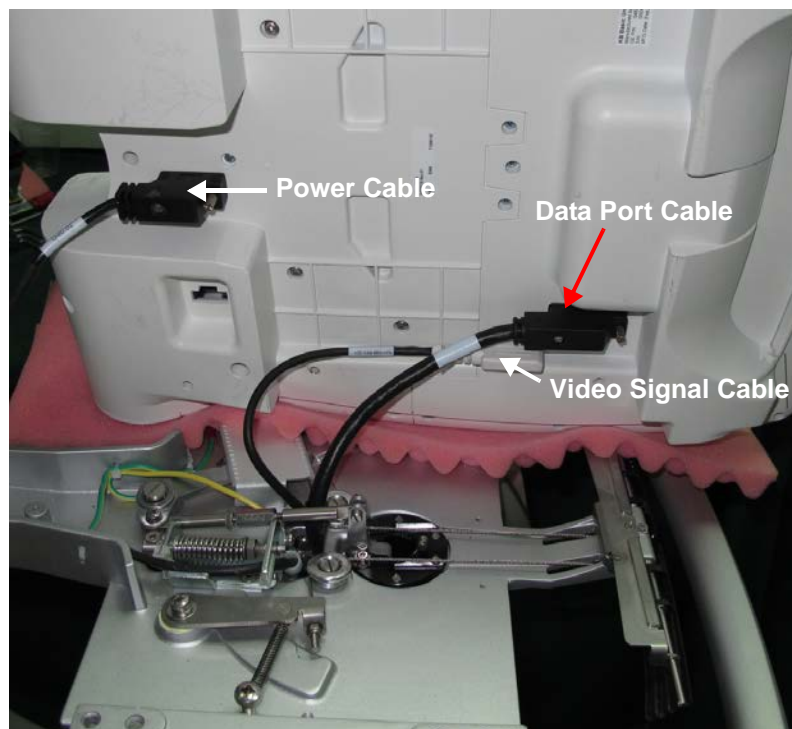

Figure 8-52 Underside of the Keyboard Assembly Showing Cables Connected
- 6.) Tilt the keyboard assembly upwards, exposing the three cables connected to the keyboard assembly - see Figure 8-52 below.
- 7) Using the appropriate screwdriver release the securing screw and unplug the data port cable from the Keyboard Assembly as shown in Figure 8-52, above.
- 8.) Unplug the Video Signal cable and using a flat screwdriver, release the securing screw and unplug the power cable from the Keyboard Assembly - see Figure 8-52, above.